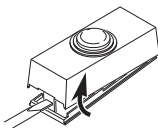
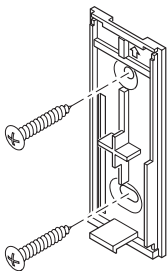

Figure 1
Figure 4
1. **Remove orange battery tab from push button.** Remove back of case by pushing in tab on bottom with a small screwdriver (see Figure 1). Remove orange battery tab.
- **Screw Mounting:** To mount with screws, remove back of case by pushing in tab on bottom with a small screwdriver (see Figure 1). *Note:* Remove material in screw holes (if needed) before mounting with screws. Attach back of case to door jamb or wall (see Figure 4). Snap front of push button on.